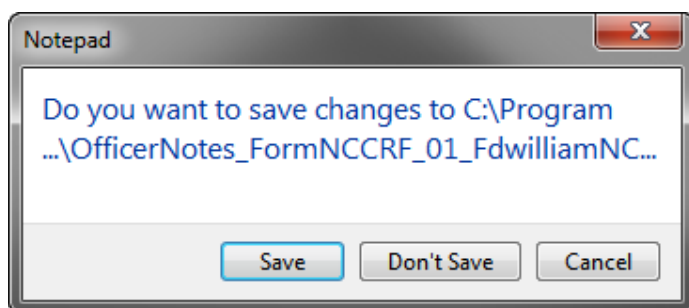

Figure 54. Do You Want to Save Changes to Officers Notes Message
1. Click . The **Do you want to save changes?** message displays, as shown in Figure 54